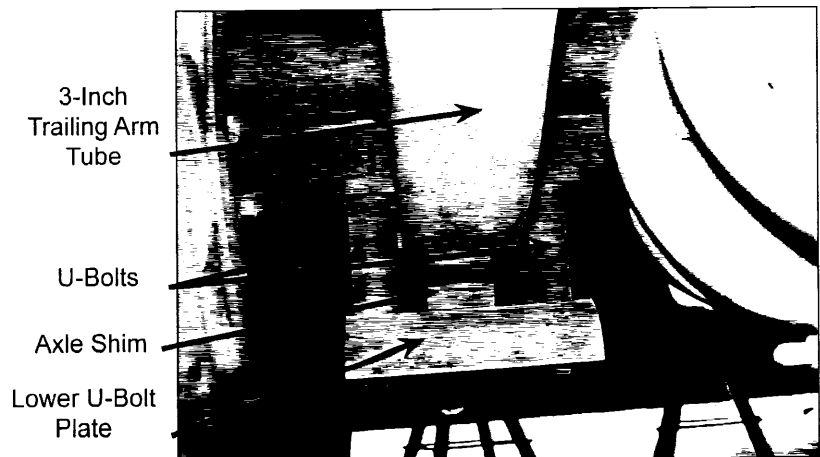

Figure 1
If the coach is equipped with either Nuway or Rayco suspension this recall is not applicable, the recall is only on Roadmaster R-Way Gold suspension. If the coach Production Number is between 703422 and 708552, the U-bolts are okay; however, the Axle Shim and the Trailing Arm must still be inspected for the proper weld with no visual signs of cracking. You may do this inspection with the reference to Figure 1 below, or you may contact a local shop to perform the inspection. Contact Monaco Customer Service with any questions at 1-877-466-6226. If the welds are correct, you will only need to fill out the post card section (Lower Left Section 2) of the Customer Notification and Dealer Claim form sent previously. In Section 2, mark that the dealer (name) and/or yourself inspected the welds and that the welds are correct.
- Locate the Axle shim between the 3-inch Trailing Arm Tube and the Lower U-bolt Plate (see Figure 1).